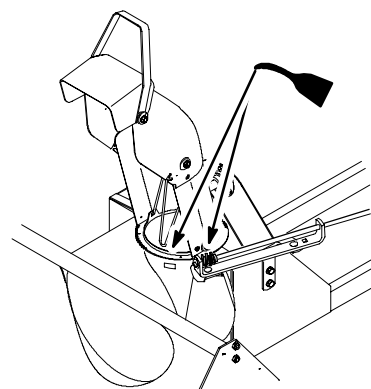

Figure 37
3. Place a few drops of oil on the discharge chute rotator shaft and discharge chute mounting (Fig. 37).